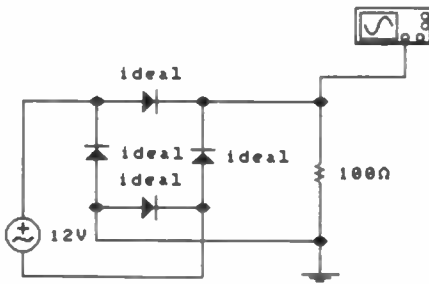

Fig. 3.31 Bridge rectifier circuit for Assignment 3.4.
3. Connect the bridge rectifier circuit shown in Fig. 3.31. Once again, the 100Ω resistor is used to simulate the load that would normally be connected to the power supply. This time you will only need a single 12V 50Hz a.c. voltage source.